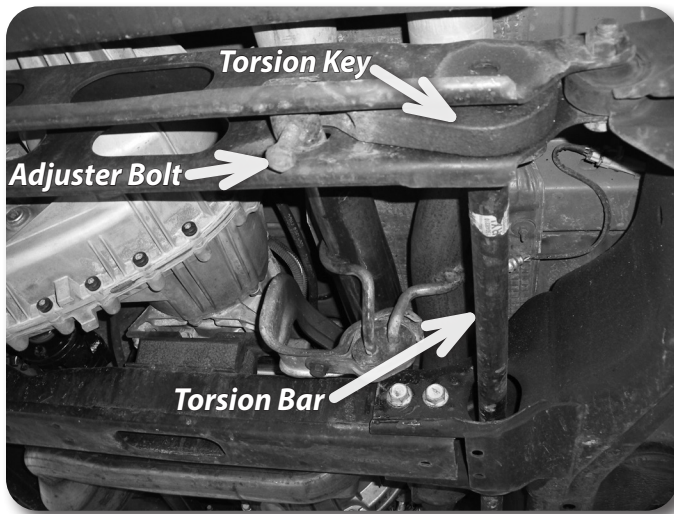

Figure 1
3. Raise the front of the vehicle with a hydraulic jack. Support the frame rails with jackstands. Figure 1